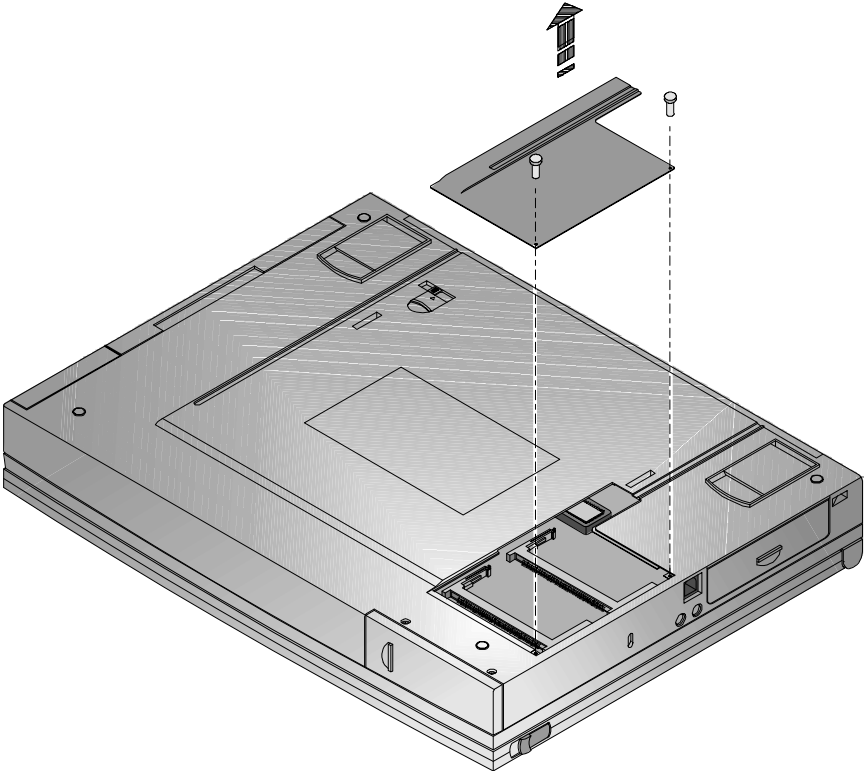
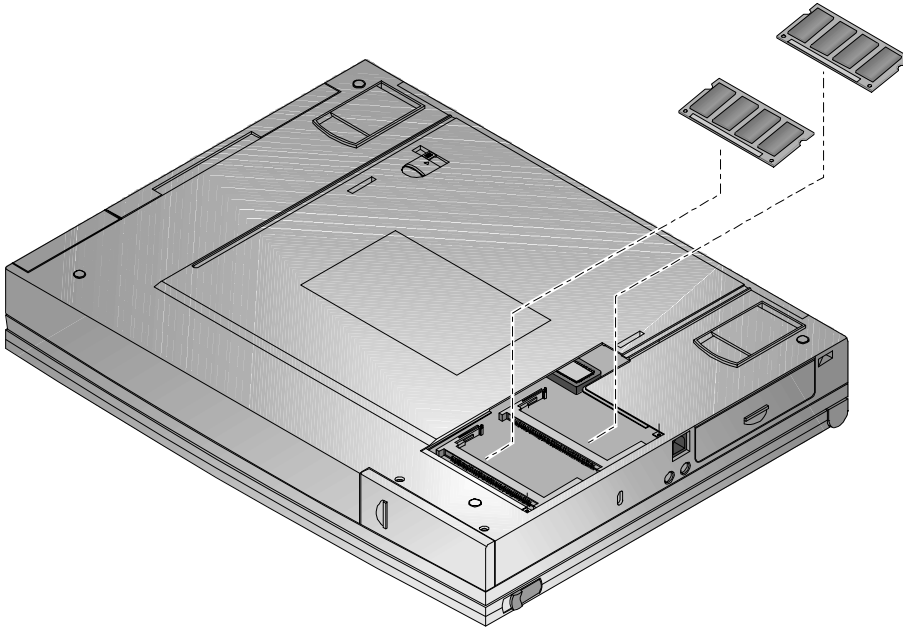

Figure 6-1: Removing Memory Door
Figure 6-2: Inserting DIMMs
You may find it helpful to refer to Figure 6-1 and Figure 6-2 while reading the following directions.
2. The memory door is located on the underside of the notebook. It is secured to the notebook by two Philips head screws. Remove the screws and the memory door to reveal the DIMM slots. (Figure 6-1)
3. Insert the DIMM into the memory slot at a 45° angle. (Figure 6-2)